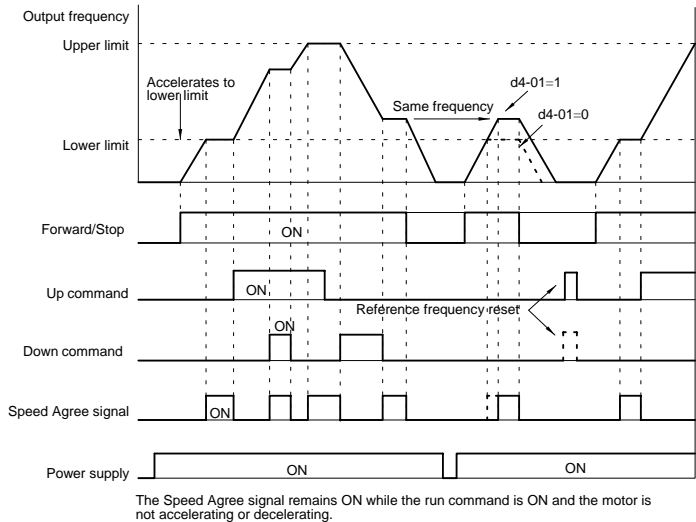

Fig 7.19 Timing Chart for Up and Down Commands
- The output frequency held by the up/down function will be stored in memory if d4-01 (the frequency reference hold function selector) is set to 1. This output frequency will be retained even after a power loss, and operation will be restarted at this frequency the next time that a run command is input. The stored output frequency will be cleared from memory if the up or down command is turned ON while the run command is OFF (see "Reference frequency reset" in Figure 7.19).